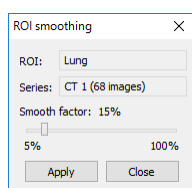

Figure 261 – ROI smoothing dialog
2. The **ROI Smoothing** dialog is then displayed (see Figure 261).